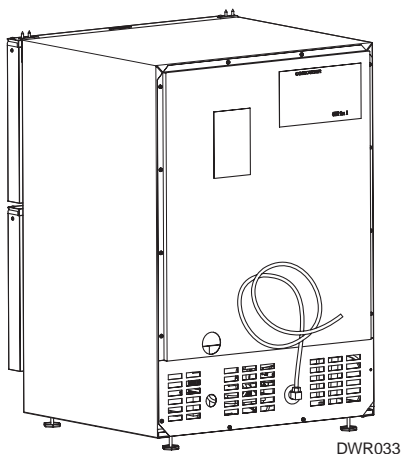

Figure 9
3. For recessed installations, allow extra water supply line length to provide slack for easy removal from the recessed area (see Figure 9). This will also safeguard against kinking the line.